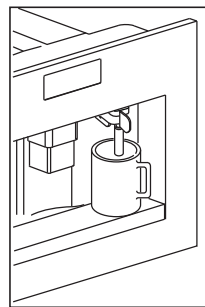

Fig. 12
- Place a cup under the hot water spout (Fig. 12). (If the hot water spout is not inserted, the appliance displays "INSERT WATER SPOUT".